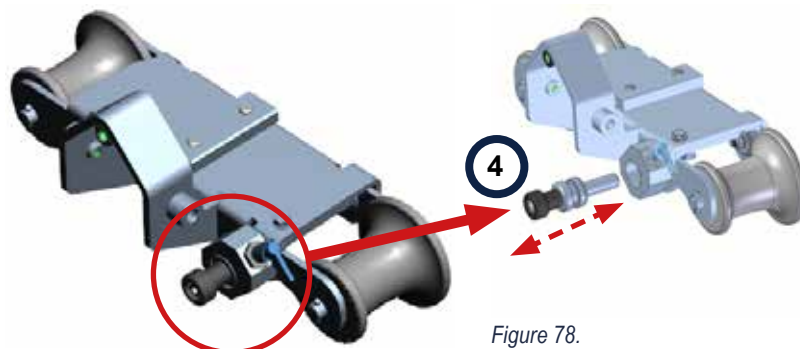

Figure 77.
1. Separate the machine from the trolley by turning the hatches on both sides, figure 77 The powerpack/tool is now released from the trolley.